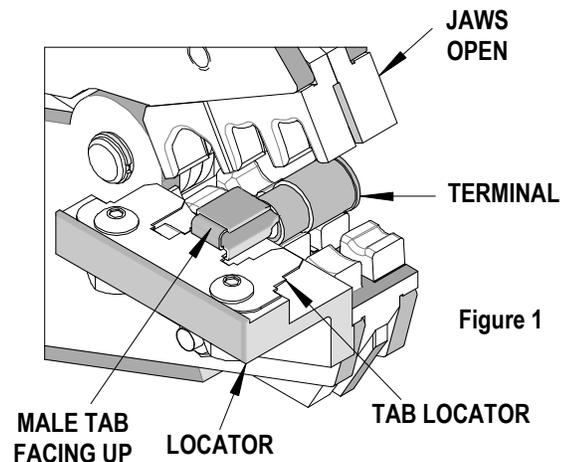

Figure 1
1. Push the terminal onto the Tab Locator all the way to the stop in the proper color-coded nest. The male tab of the terminal should be up. See Figure 1.